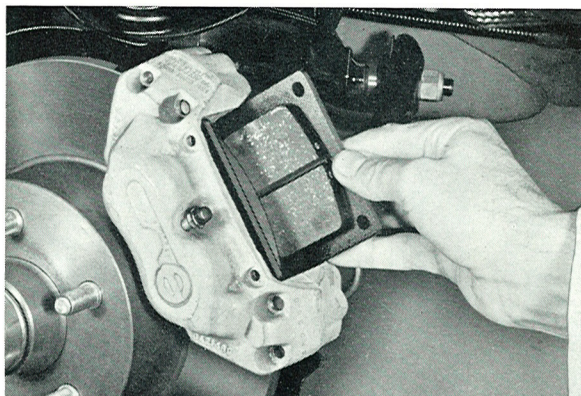

Fig. 5-16. Removing the brake pads
3. Remove the hairpin-shaped locking clips for the guide pins. Pull out one of the lock pins while holding the damper springs in place. Remove the springs and the other lock pin. Draw out the pads, see Fig. 5-16.